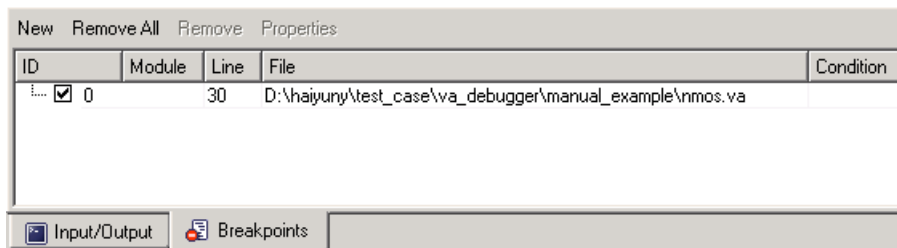

Figure 9-11 View Breakpoint Dialog Window
- **View Breakpoint:** Displays the Breakpoint dialog (see Figure 9-11).
The **View Breakpoint Dialog** allows you to manage or customize breakpoints. To bring up the **View Breakpoint Dialog**, left click the button **View breakpoint...** in the toolbar panel (see Figure 9-11).